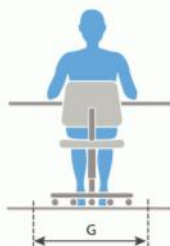

Figure 16. Design recommendations for the workstation
- **Design recommendations for the workstation** (Figure 16). This section of the report shows a number of design recommendations for the workstation, which will depend on the selection made in the characteristics of the workstation. These recommendations concern:
The design recommendations are illustrated with pictures where a letter indicates the dimension involved (Figure 16). Moreover, the table below the explanatory text shows the recommended values for the main dimensions of the workstation. These dimensions are based on the standard EN ISO 14738 on the *Safety of machinery. Anthropometric requirements for the design of workstations at machinery*.